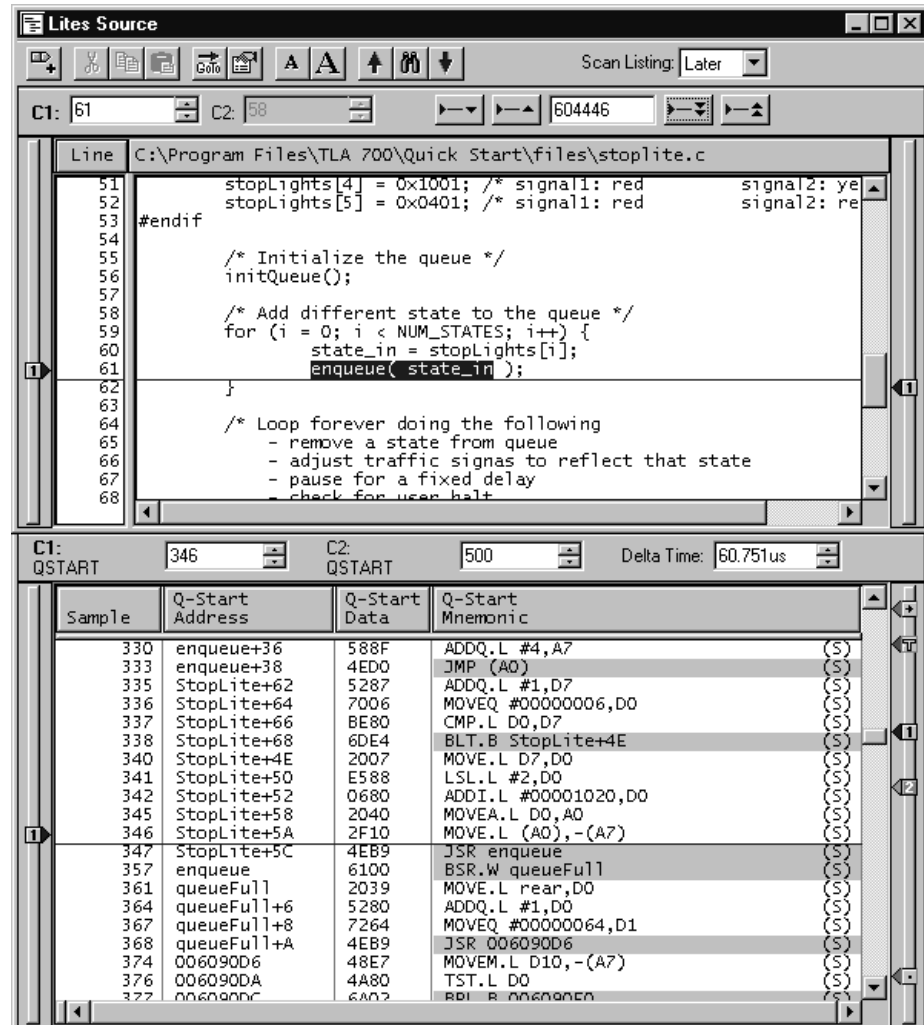

Figure 4-10: Source and Listing windows after step 3
- Click on the Next Mark button again. The active cursor (cursor 1) in the Source window remains at line 61, while the corresponding cursor (cursor 1) in the Listing window moves to sample 346, which is the next execution of that statement in the for loop. Figure 4-10 shows the results after this operation.